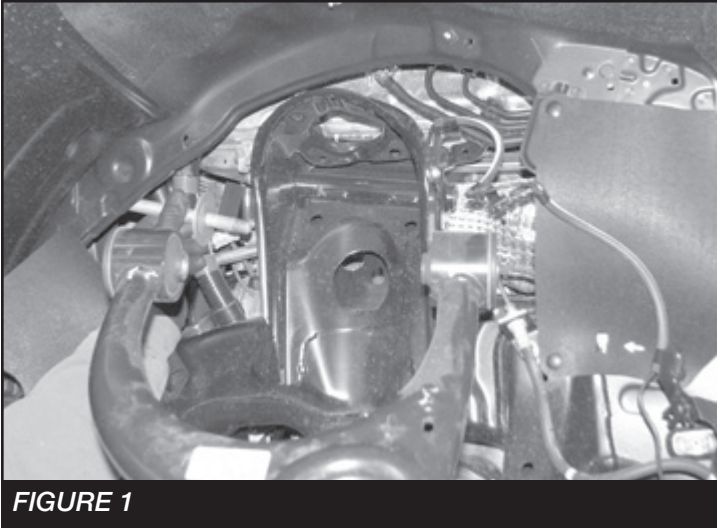

FIGURE 1
3. Remove the upper control arm and retain the factory hardware. **SEE FIGURE 1**